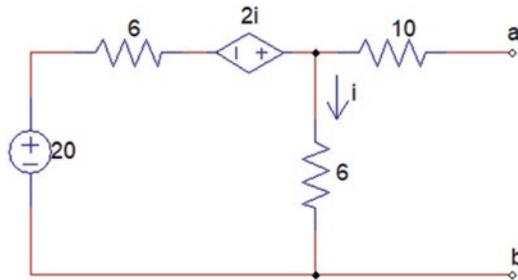

Fig. 1.363 Circuit of Exercise 5
5. Use LTspice to find the Thevenin equivalent circuit with respect to the terminals “a” and “b” for the circuit shown in Fig. 1.363.